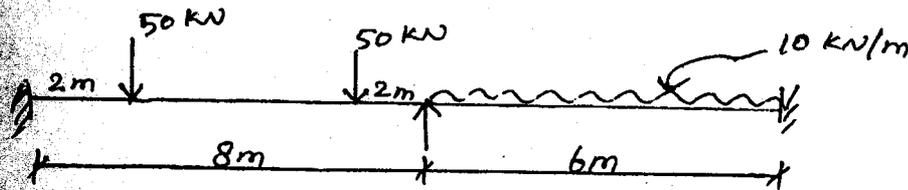

Fig. 2.
- (b) Design a self supporting steel chimney of 80 m height. The diameter of the chimney at top of 3 m . Thickness of brick lining is 100 mm . Take wind pressure as 1.5 kN/m^2 . (16)
- (c) Determine the plastic moment for a continuous beam shown in Fig. 2. (16)